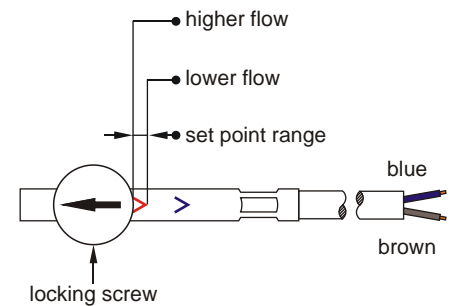
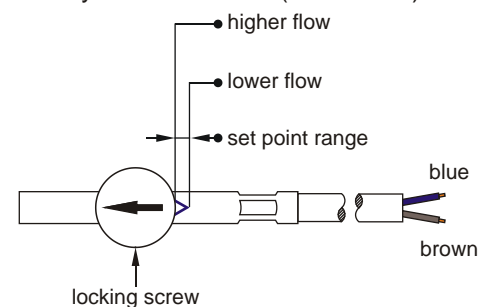

Fig. 20
Fig. 21
- ↪ Subsequently position the switching unit until the red (→ Fig. 20) or the blue arrow (→ Fig. 21) are visible at the entry of the switching unit guide for a desired make or break contact respectively (not required for change-over contact).